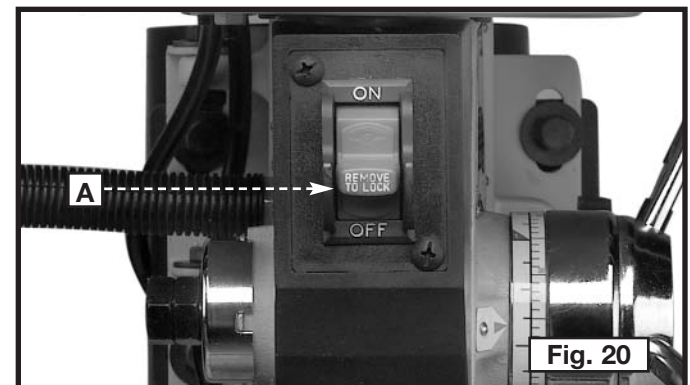

Fig. 20
The switch (A) Fig. 20 is located on the front of the drill press head. To turn the drill press “ON”, move the switch up. To turn the drill press “OFF”, move the switch down.